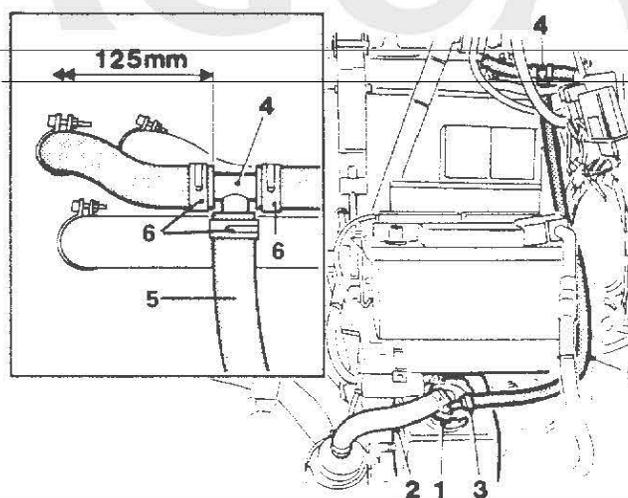

FIG 3
9. Fit the new suction pipe assembly and using a brass drift fit the sealing ring to the auxiliary tank (1 Fig 3).
10. Connect the fuel pump to auxiliary tank hose (2 Fig 3) to the new suction pipe assembly (1 Fig 3).
11. Attach the new vapour hose to the remaining outlet on the suction pipe assembly using the hose clip supplied (3 Fig 3).
14. Connect the cut ends of the hose together using the hose clips (6 Fig 3) and the tee-piece supplied (4 Fig 3).
16. Route the new vapour hose (5 Fig 3) around the battery carrier tray and up to the tee-piece. Connect to the remaining outlet of the tee-piece using the remaining hose clip (6 Fig 3).